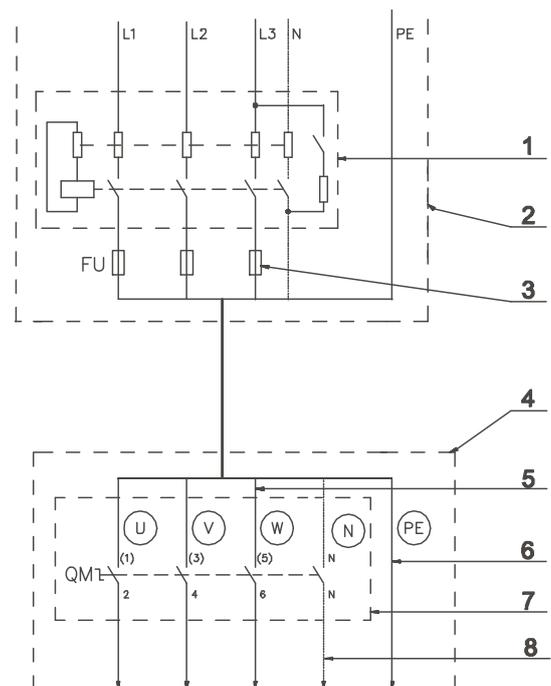

Figure 27 – Machine connection to electrical network (with a residual current device)
- The machine has been designed for connecting to the electrical network according the specification of your order. Before connection check the electrical data stated on the data plate, if they correspond to your electrical network. An individual branch circuit needs to be used for each machine. The way of the connection is described in figure 27. For electrical protection, there must be installed a residual current device (RCD) and a circuit breaker in the electrical installation of the building (laundry switchboard). For correct selection see below.